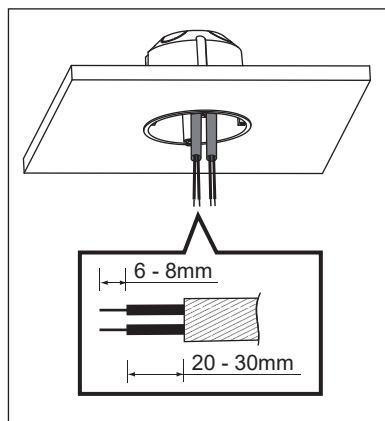
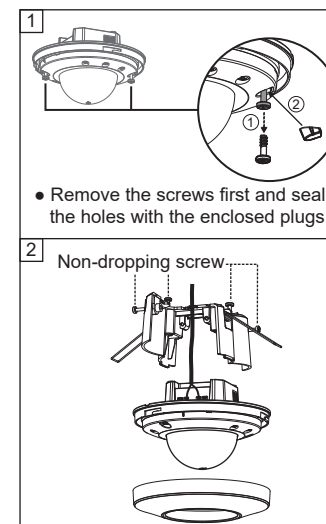
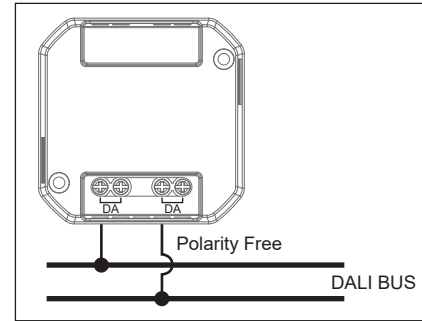

FIG.1
FIG.4
FIG.12
2. Pull out power cables from European standard junction box, then strip off 6 - 8mm of cable sheathing for wiring (See FIG.1). Refer to wiring diagrams for correct wiring connection (See FIG.12~13).
2. Please refer to illustration of FIG.4 for correct installation, and fix the flush mount spring clips to the detector with 2pcs non-dropping screws (See FIG.4).
3. Refer to wiring diagrams for correct wiring connection (See FIG.12~13), and then tighten the flush mount spring clips with 2pcs non-dropping screws (See FIG.4).
4. Refer to wiring diagrams for correct wiring connection (See FIG.12~13) and fix the detector into surface mount box with 2pcs non-dropping screws (See FIG.10).